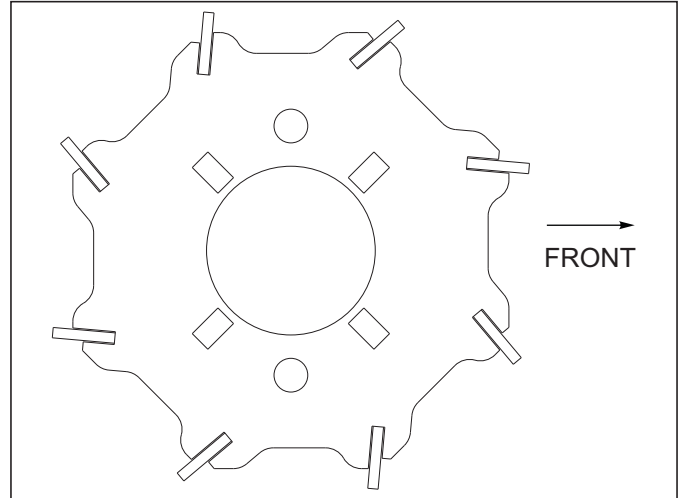

Figure 3-31: Flat Reel
5. Attach flat bar reels with angled blades as shown **See Figure 3-31**.